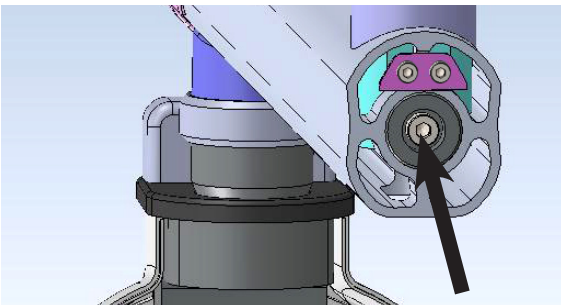

Figure 77
- Fix M8x25 positive lock screw and M8 spring & plane washers to lock the scissor arm to straight arm using 6mm allen key as shown in Figure 77.